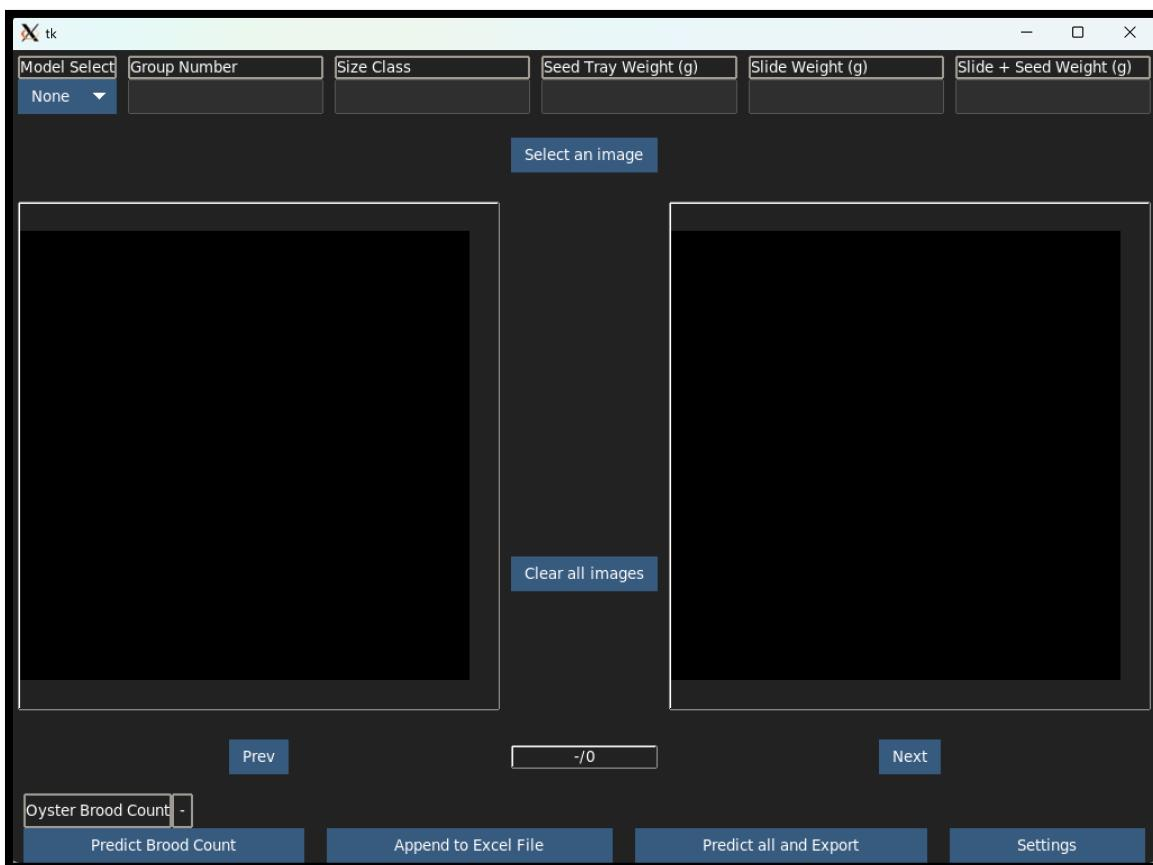

Figure 4.1. The open seed counting software window.
3. First, the command window will appear, followed by a new window displaying the seed counting software (Figure 4.1).
- After closing the Settings window, click on “Select an image” located near the top center of the screen (Figure 4.1). This will open a pop-up window where you can choose the images you want to analyze from your “images” folder. Multiple images can be selected at once. Once selected and loaded into the software, you should see the image on the lefthand side of the screen. You can cycle through and view all images by clicking “Prev” and “Next”.